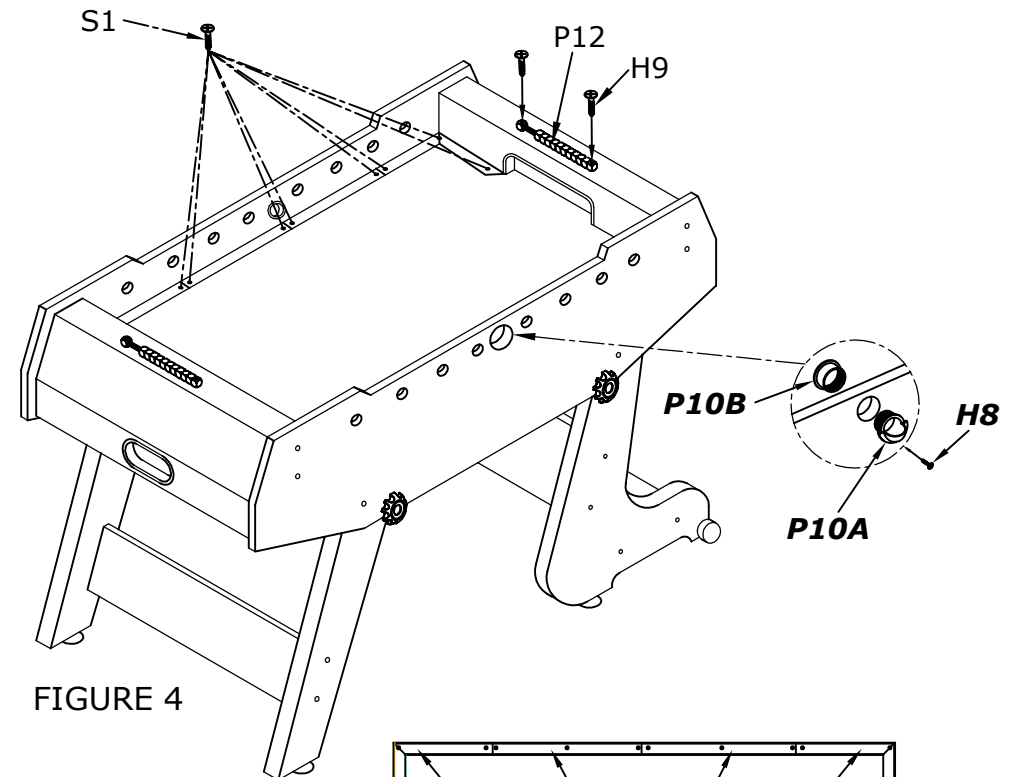

FIGURE 4
- Attach the ball entry cup **P10A** and ball entry cup socket **P10B** to the side panel using screws **H8** as shown in **FIGURE 4**.
- Attach the scorer **P12** to the end panel with **H9** as shown in **FIGURE 4**.
- Attach the plastic **#2a, #2b, #3a, #3b**, to the Playing Field with **S1** as shown in **FIGURE 4**.